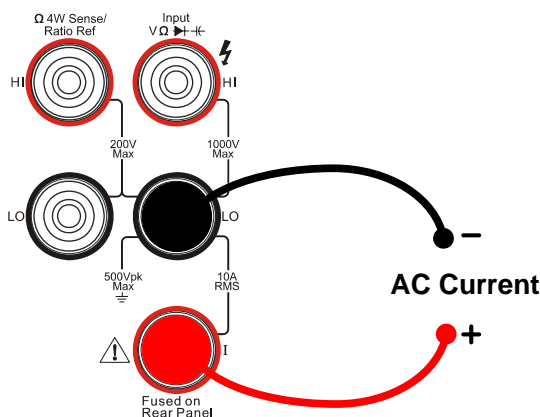

Figure 1-17
1. Connect test leads as Figure 1-17 shown. Red test lead connects the HI Terminal, Black test lead connects the LO terminal.